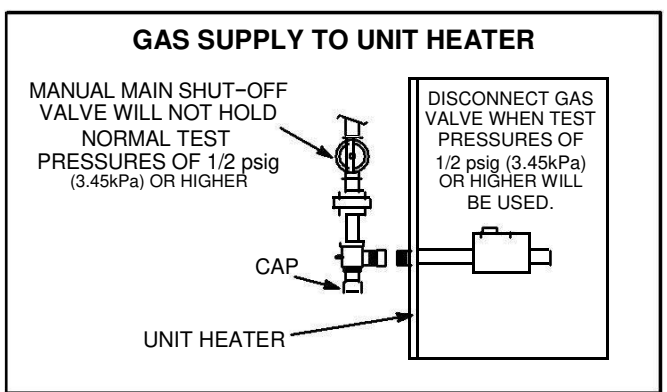

FIGURE 9
The heater and its individual shut off valve must be disconnected from the gas supply piping system during any pressure testing of that system at test pressures in excess of 1/2 psig (3.45kPa). See figure 9.
- 2 – After line pressure has been checked and adjusted, check regulator pressure. Correct manifold pressure is shown on the unit rating plate. See figures 9 and 10 for gas pressure adjustment screw location. A natural gas to LP/propane gas changeover kit is required to convert the unit in the field. Refer to installation instructions provided with changeover kit for conversion procedure.